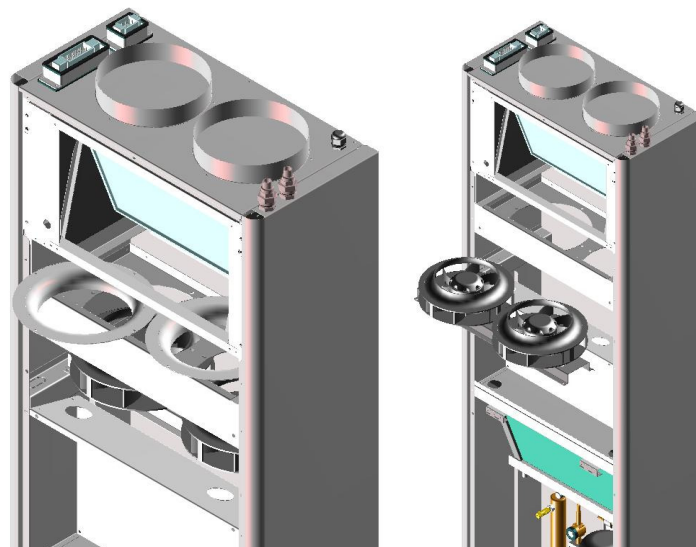

Fig. 8
7. **Fans.** The adopted fans are of the backward curved blades (Plug) type made from EBM Germany. This components are equipped with an external rotor motor for the maximum efficiency and reliability and reduced sound emissions, even in fan speed modulation. For remove the fans, firstly remove the fan nozzles (accessible from the filter compartment), remove the two screws of the fan support, turn it up and extract the support with both fans (fig. 8).